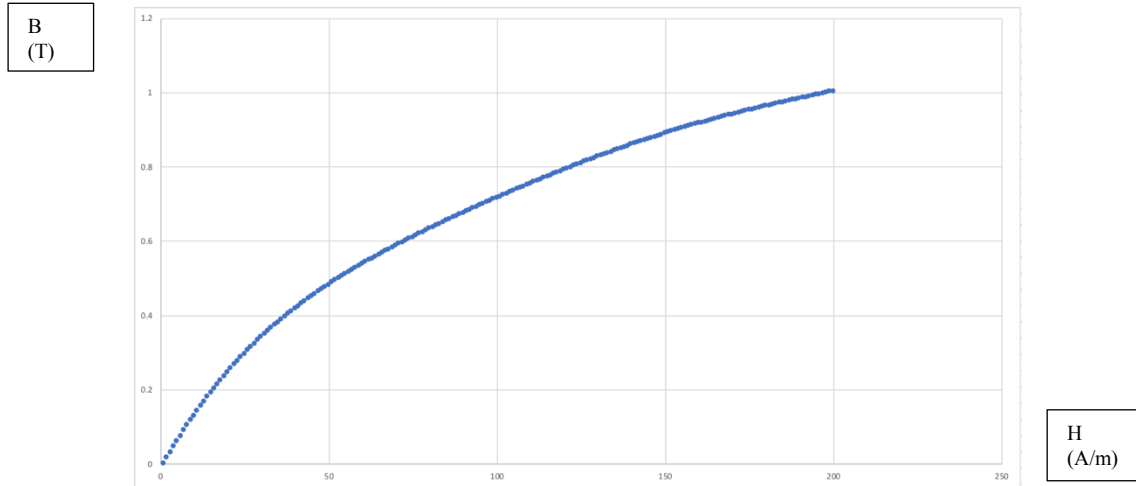

Figure 2: First 6 Points Full Domain Lagrange Polynomial Interpolation (over the range of the first 6 points)
2. For the circuit shown in Figure 2 below, the DC voltage E is 200 mV, the resistance R is 512 Ω , the reverse saturation current for diode A is $I_{sA} = 0.8 \mu\text{A}$, the reverse saturation current for diode B is $I_{sB} = 1.1 \mu\text{A}$, and assume $kT/q = 25 \text{ mV}$.